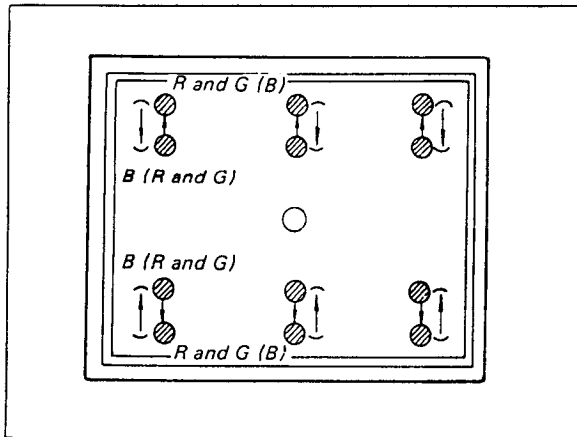
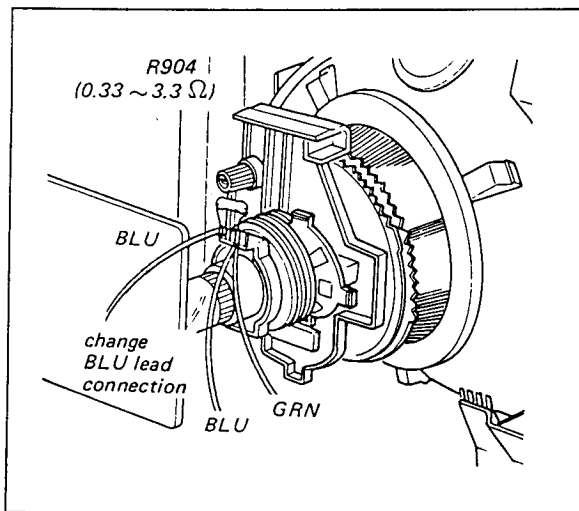

Fig. 3-13. Top and bottom convergence adjustment
Fig. 3-14. Adjustment portion on the neck assembly
2. To eliminate misconvergence shown in Fig. 3-13, add a resistor R904 (0.33 ~ 3.3 ohm) and reconnect the leads on the neck assembly as shown in Fig. 3-14 for best convergence. This way VTC (L904B) in neck ass'y comes into action, shunted with R904, for which the exact value has to be found by trial and error.